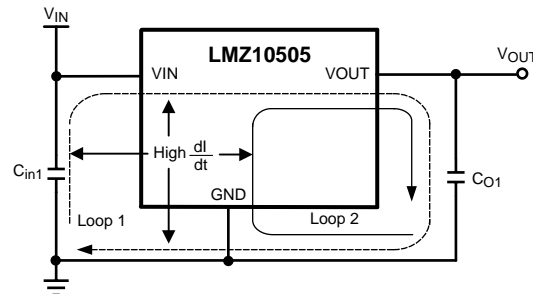

Figure 21. High Current Loops
From an EMI reduction standpoint, it is imperative to minimize the high di/dt current paths. The high current that does not overlap contains high di/dt, see Figure 21. Therefore physically place input capacitor (C_{in1}) as close as possible to the LMZ10505 VIN pin and GND exposed pad to avoid observable high frequency noise on the output pin. This will minimize the high di/dt area and reduce radiated EMI. Additionally, grounding for both the input and output capacitor should consist of a localized top side plane that connects to the GND exposed pad (EP).